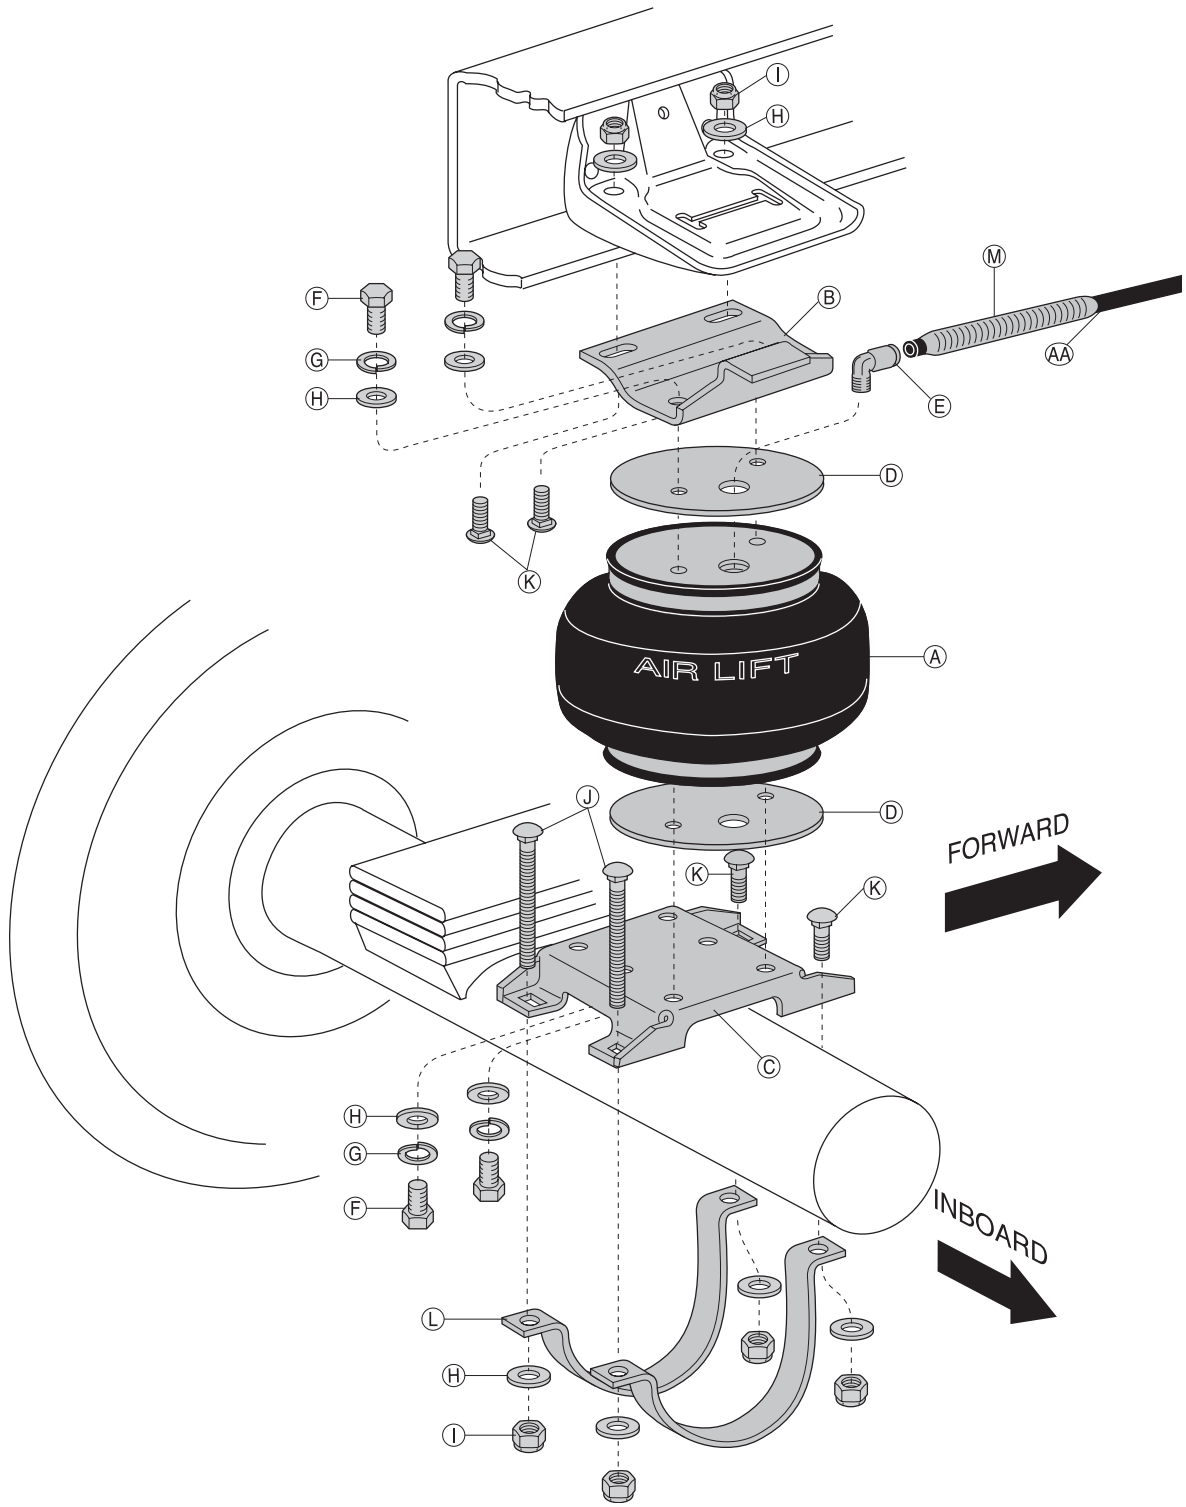

fig. 1
(* not shown in Figure 1)
4. Insert two short carriage bolts (K) into the upper bracket (Figure 1).
- Secure the upper bracket to the frame and jounce bumper bracket using a flat washer (H) and nylock nut (I) on each carriage bolt (Figure 1).
- Install two 3/8 " x 1.5" carriage bolts (K) in the two forward facing holes of the lower bracket (Figure 1).
- Install two 3/8 " x 3.5" carriage bolts (J) in the rearward facing holes of the lower bracket (Figure 1).
- Install the J-straps (L) with the long leg to the front of the vehicle. Loosely attach the straps using flat washers (H) and 3/8 " lock nuts (I). Refer to Figures 1 and 7.